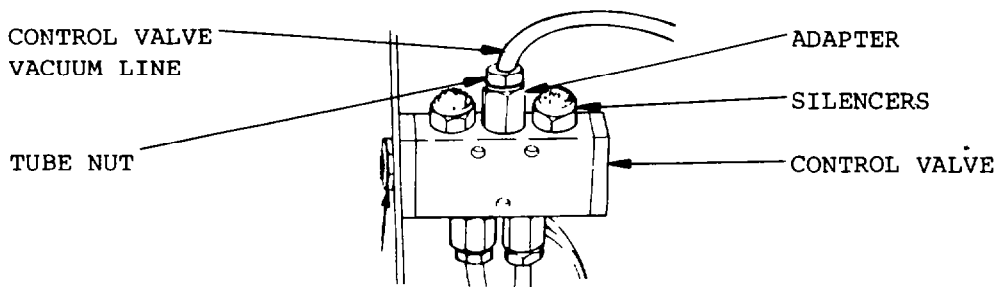

FIG 1 - CONTROL VALVE ASSY
- g. Lift the mounting plate assembly sufficiently to gain access to the items shown in Fig. 1.